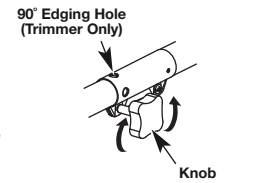
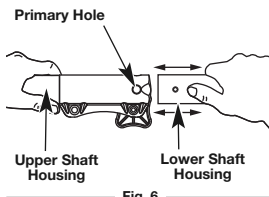

Fig. 4
Fig. 6
1. Turn the knob counterclockwise to loosen (Fig. 4).
2. While firmly holding the attachment, push it straight into the coupler until the release button snaps firmly into the primary hole (Fig. 6).
3. Turn the knob clockwise to tighten (Fig. 4).
**CAUTION:** Before operating this unit, be sure that the release button is fully snapped into the primary hole (Fig. 6), and that the knob (Fig. 4) is securely tightened.
For decorative edging with the line head trimmer attachment, lock the release button of the attachment into the 90° hole (Fig. 4).
3. While firmly holding the upper shaft housing, pull the attachment straight out of the coupler (Fig. 6).